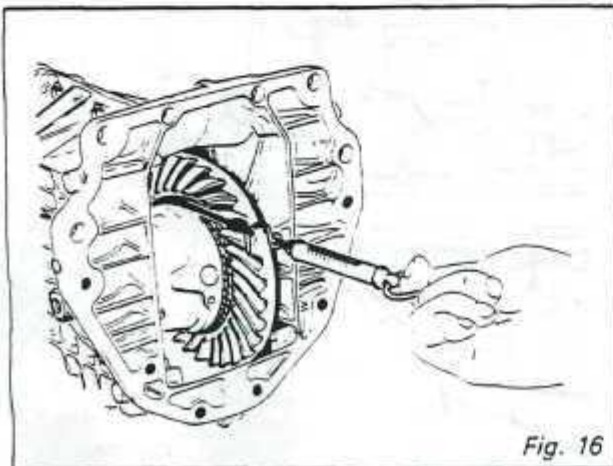

Fig. 16
7. Pull the string using a spring scale to measure the bearing preload. (Fig. 16) The reading is taken when there is a constant rotating movement of the differential.